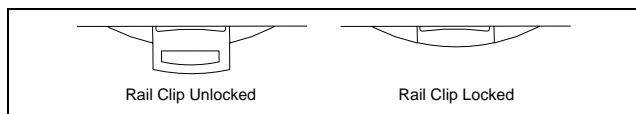

Figure 1. DIN Rail Clip
1. Use a flat-bladed screwdriver to open the DIN rail clip to the unlocked position, as shown in Figure 1.